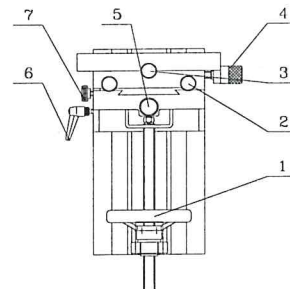

Figure 5
(-) **Single color(SPC-814E)**.(see figure 5). This is the basic type and the shuttle worktable developed from it. The single color worktable is as figure 3:
4. Adjust the worktable, see figure 5, loosen(6), adjust(1) to adjust the up and down position of worktable, loosen (7), adjust(4) to adjust the front/rear position of worktable, then loosen(3), adjust(5) to adjust the left/right position of worktable, then adjust(2) to adjust the angle of worktable, after adjust well, lock all the locking screw, install the fixture and workpiece.